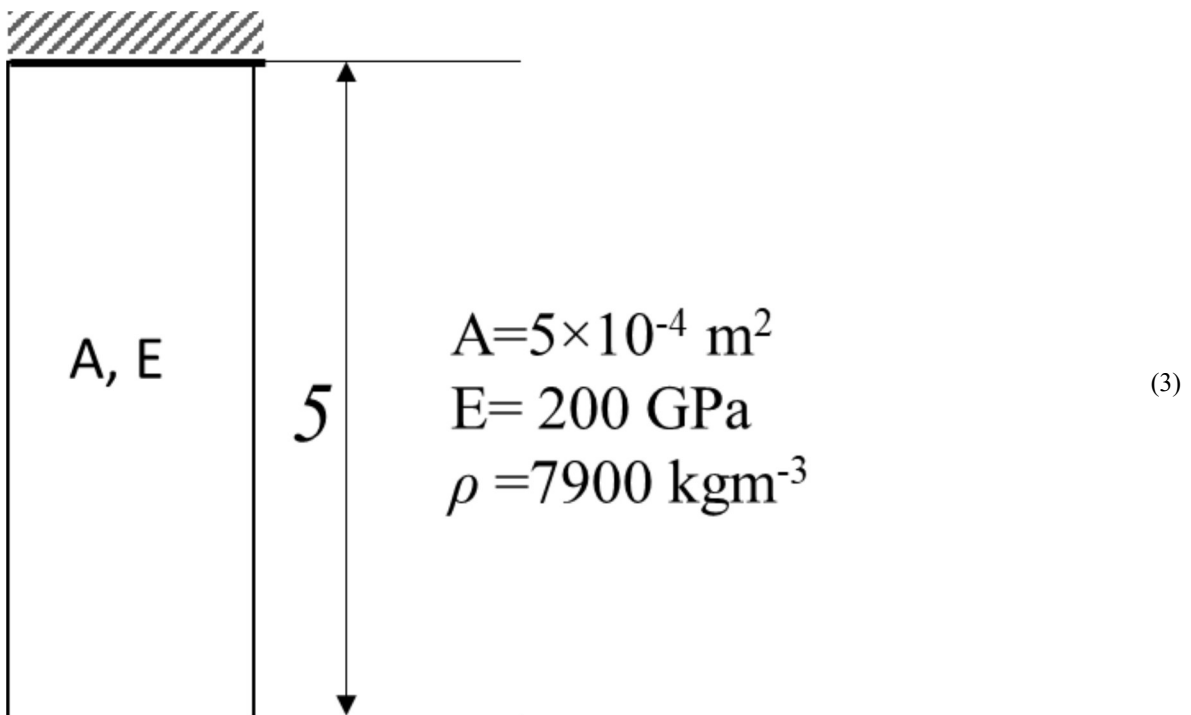

Figure 3 Suspended Bar
- C) A bar of length 3 m is suspended vertically as shown in Figure 3. It is found to deform under its own weight. Determine the displacement at the free end of the bar, considering the entire bar as a single element.